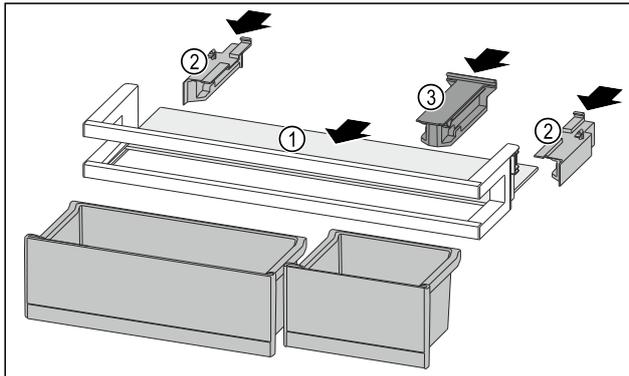

Fig. 88
- ▶ Push the shelf Fig. 88 (1) into the side recesses.
- ▶ Insert the side parts Fig. 88 (2).
- ▶ Insert the holding part Fig. 88 (3).